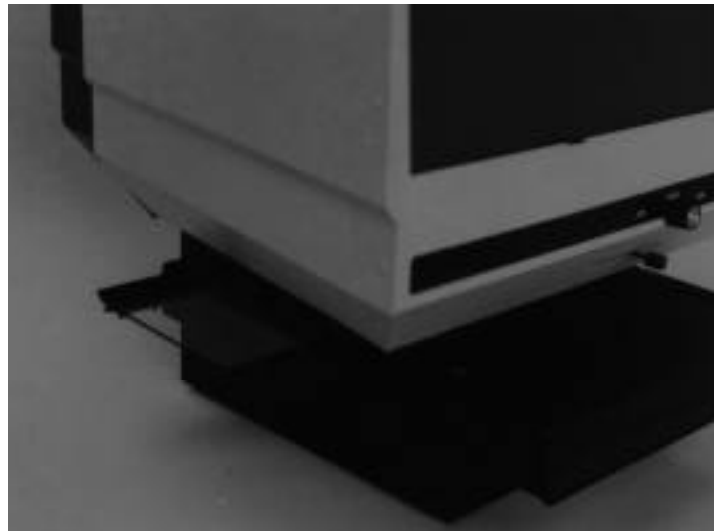

Figure 2
(Figures 2 and 3):
3. Remove the upper glass by gripping the black extrusion and lifting up and out (Figure 2).